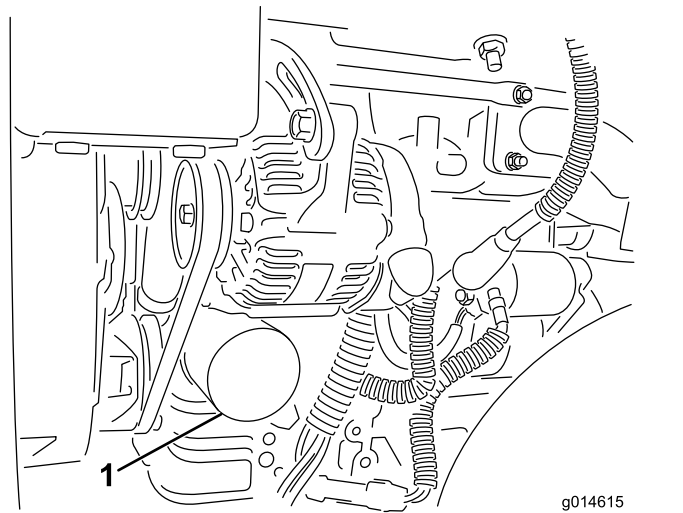

Figure 47
2. Remove the oil filter (Figure 47). Apply a light coat of clean oil to the new filter gasket.